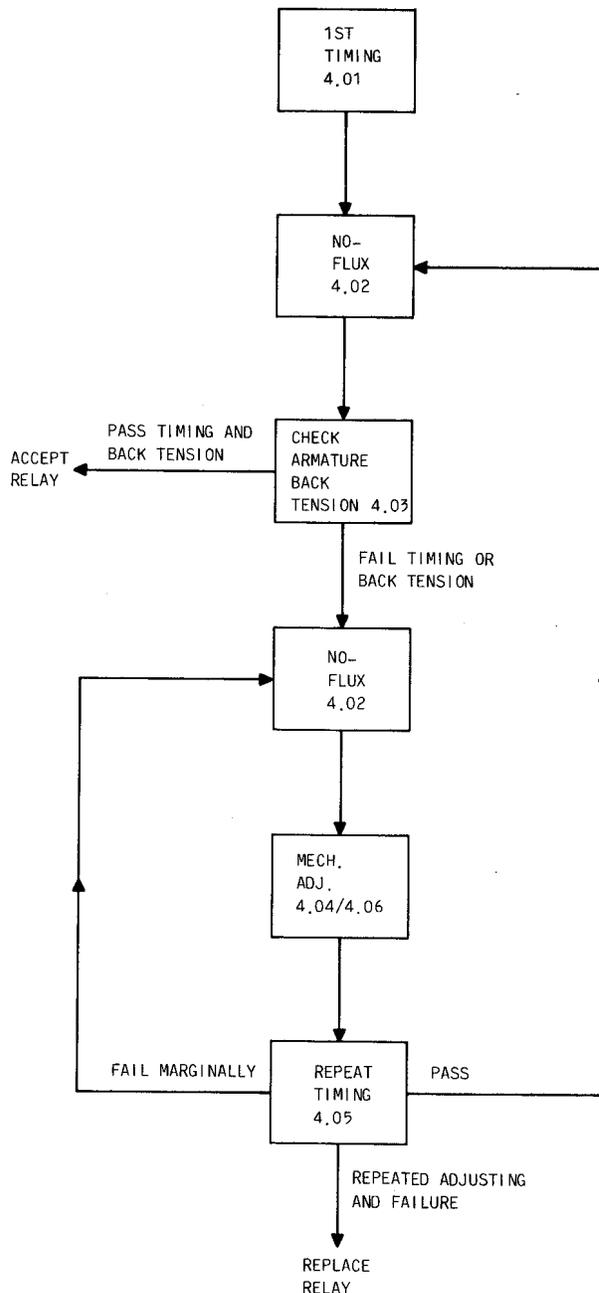

Fig. 4—Flow Diagram Relay Timing Test
3.03 The operate time and release time are affected by armature back tension and balance spring adjustment. If it is found necessary to adjust a relay to meet timing requirements, the requirements for armature back tension must be rechecked. For this reason, it is necessary to follow the steps outlined in this section and shown schematically on the flow diagram (Fig. 4) to test and adjust these relays.